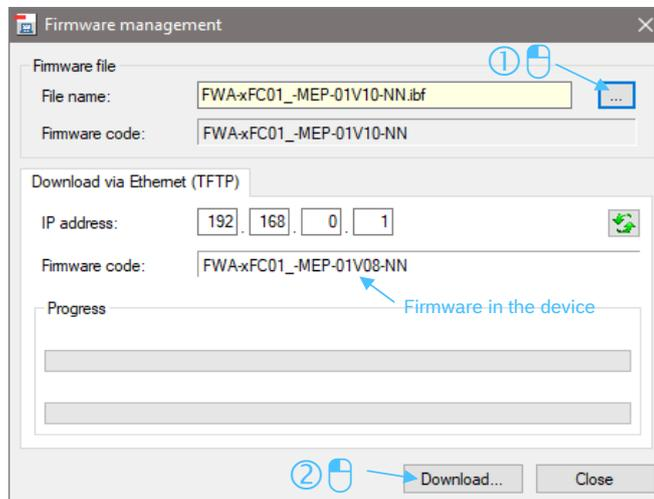

Abb. 14: Firmware update MEP window
- ▶ Click on "..." to navigate to a firmware file (*.ibf) and download it to the device by clicking on "Update" (see Abb. 14: Firmware update MEP window).